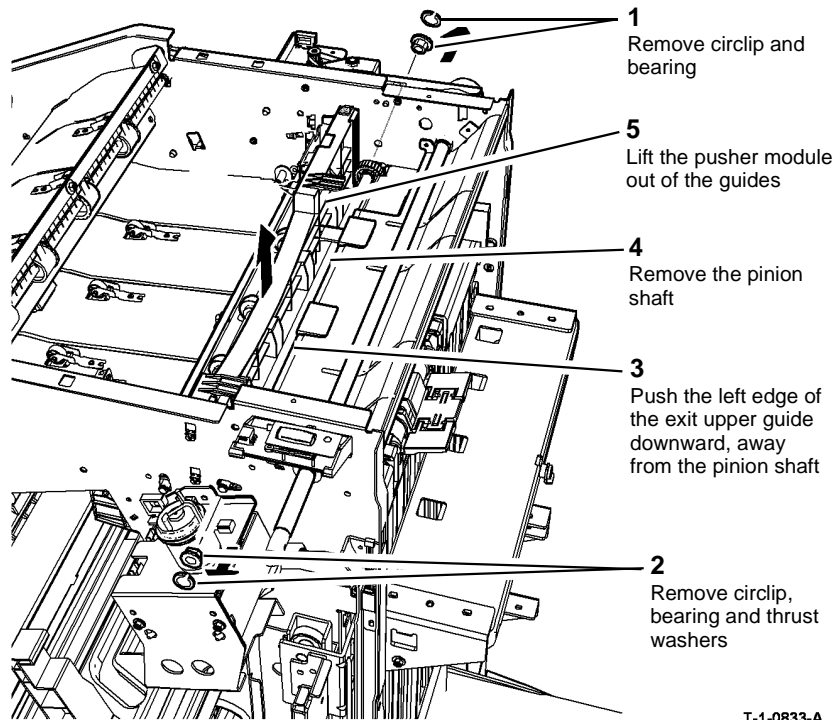

Figure 2 Pusher module removal
6. Remove the pusher module, Figure 2. The mylar strips and dampers are attached to the pusher module.